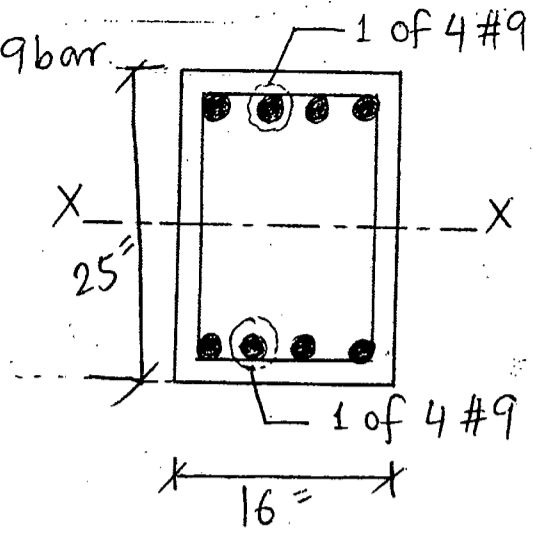

Fig. 2
2. (a) Differentiate between the behaviour of a short column and a long (slender) column. (10)
(b) For the column section shown in Fig. 2, draw the strength interaction diagram (for bending about X-X axis) with five points corresponding to balanced failure, pure axial load, pure bending, tension failure and compression failure. (25)